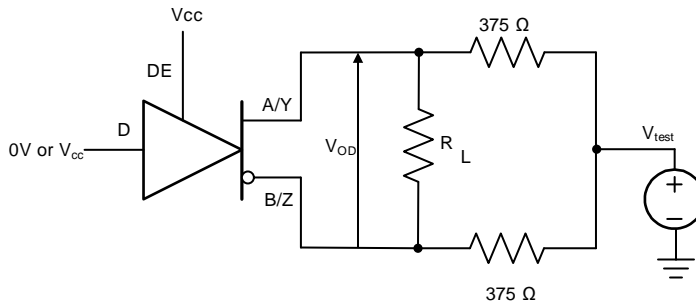

Figure 20. Measurement of Driver Differential Output Voltage With Common-Mode Load
| $ V_{OD} $          | Driver differential output voltage magnitude      | $R_L = 60\ \Omega$ , $-15\text{ V} \leq V_{\text{test}} \leq 15\text{ V}$ (See Figure 20) (1)                                   |  | 1.5                | 3.5            |                    | V             |
|                     |   | $R_L = 60\ \Omega$ , $-15\text{ V} \leq V_{\text{test}} \leq 15\text{ V}$ , $4.5\text{ V} \leq V_{CC} \leq 5.5\text{ V}$ , (See Figure 20) |  | 2.1                |                |                    | V             |